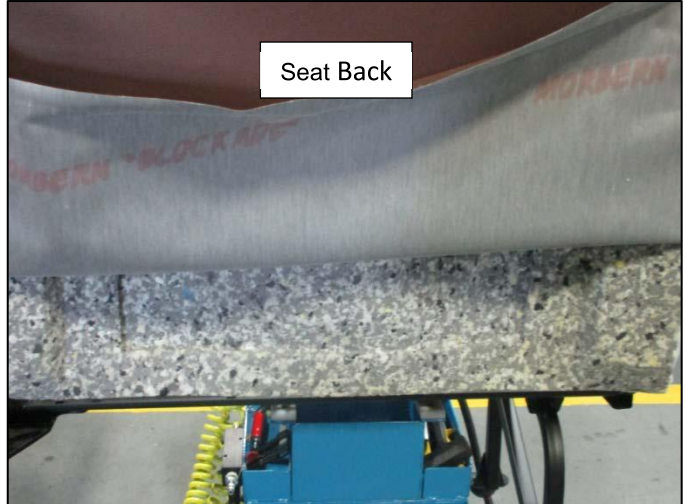

Figure 5: Vinyl Cover (Seat Back)
8. Pull or roll the cover up on the seat back. See **Figure 5**.